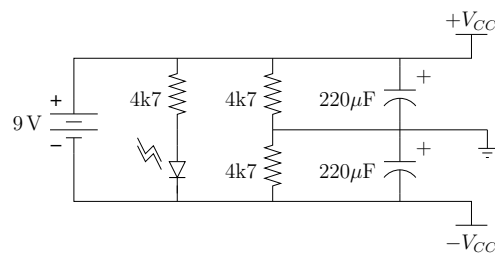
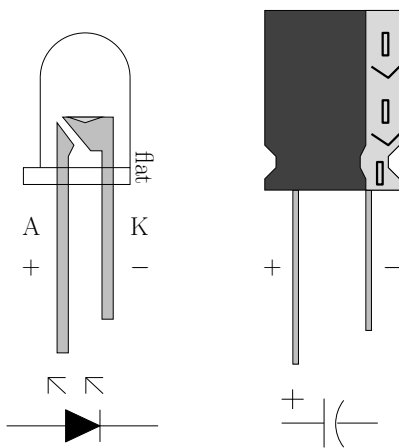

Figure 1: Schematic of the CMoy power circuit. Notice that you must make *three* connections to the amplifier circuit.
Figure 2: Polarities of the LED and electrolytic capacitors.
Study the CMoy headphone amplifier circuit (figures 1 and 3).
1. Build the power supply portion of the circuit (fig. 1). For kit builders, more details are provided in section ?. The two electrolytic capacitors and the diode must be installed with the right polarity (fig. 2). The capacitors are particularly susceptible to damage if they are connected backwards. You may either build the circuit on the breadboard or solder components to the custom PCB in the kit, if you or your partner purchased one.